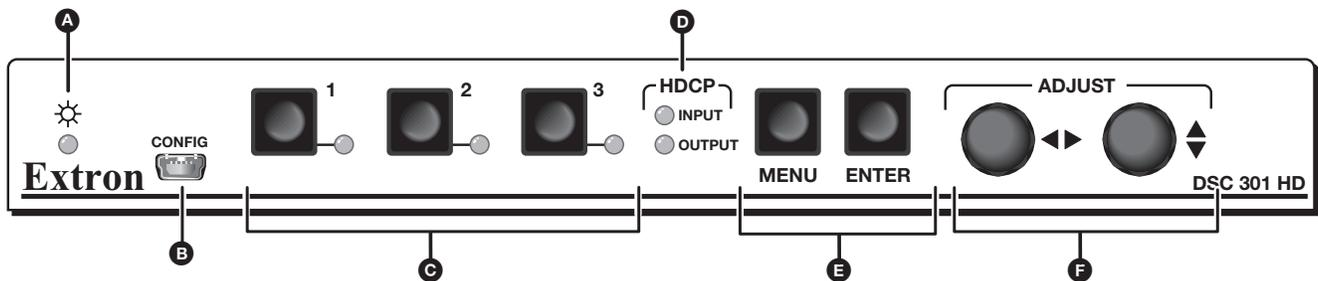

Figure 3. DSC 301 HD Front Panel Features
- **Menu button** — Press the **Menu** button (see figure 3, **E**) on the previous page) to activate or deactivate the main menu.
2. If the desired submenu is not showing, use the **Adjust** knobs (↕, ▶◀) (see figure 3, **F**) to navigate to the desired menu.
- INx refers to the selected input, for example, Input 2, as shown in figure 3.
Select **Save**, **Recall**, or **Clear** and use the adjust knobs to select the applicable user preset. Press the **Enter** button (see figure 3, **E**, on page 8) to recall, save or clear the preset as required. Press **Enter** again to confirm the chosen action.